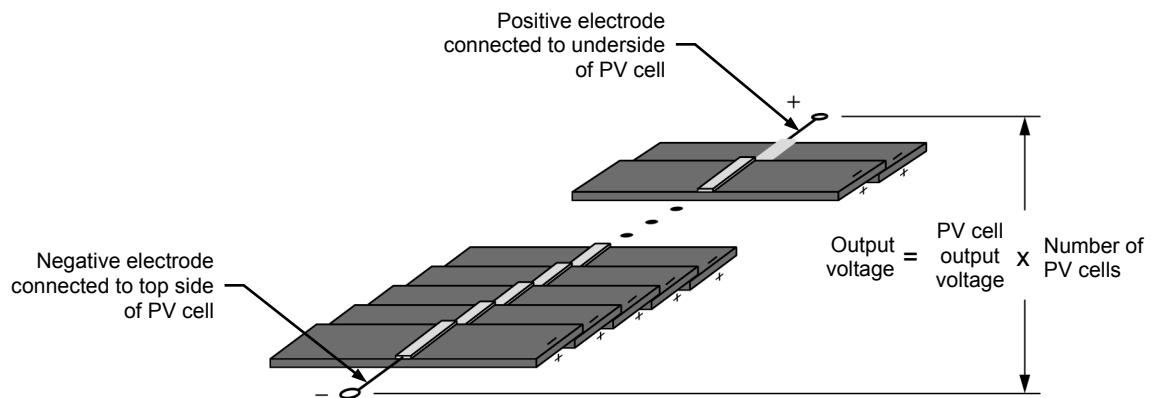

Figure 24. Typical arrangement used to connect photovoltaic cells in series.
Because the output voltage of a single PV cell is low (less than 0.7 V), it is common practice to connect several PV cells of the same size in series to obtain higher voltages. Figure 24 shows a typical arrangement used to connect PV cells in series. An arrangement of several PV cells interconnected together with its positive and negative electrodes is commonly referred to as a photovoltaic (PV) module.